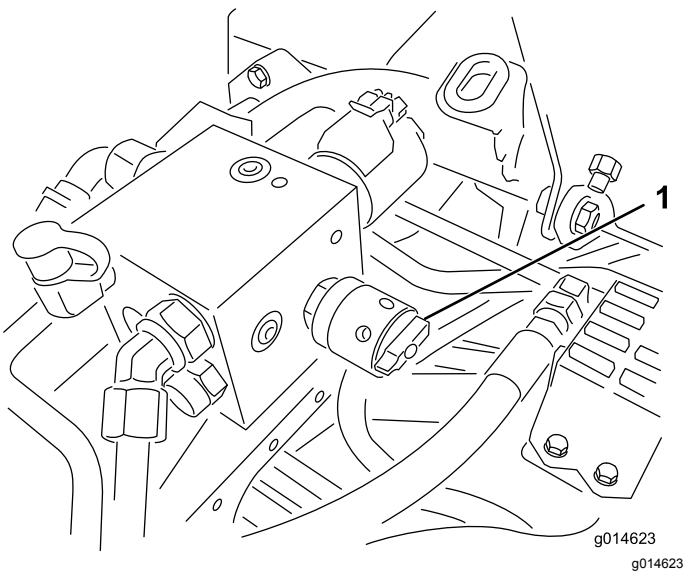

Figure 50
- 4. Adjust the reel speed by rotating the knob (Figure 50) until the indicator arrows are in line with the number you determined in step 3.